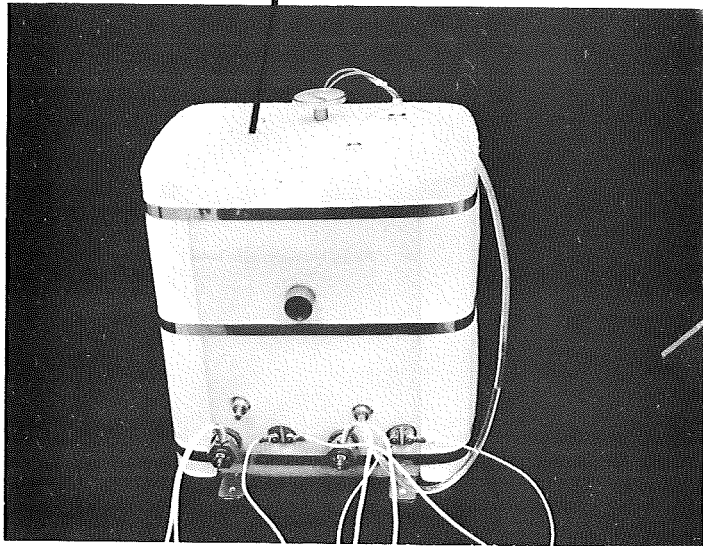

FIGURE 17. WATER TANK ASSEMBLY
The water subsystem consists of an aluminum tank (See Figures 17 through 20) equipped with two 500 watt immersion heaters and two thermostats which automatically maintain the 16 pounds of water in the tank at $95^{\circ} \pm 5^{\circ}$. Water is admitted to the tank by connecting the source to a quick disconnect on the back of the unit. All water entering the tank is filtered through a sintered metal filter. There is an additional quick disconnect on the back of the unit which allows for a gravity fill admission of Wescodyne F-53, a germicidal agent, to the water tank.
4.9 Water Tank (See Figures 17, 18, 19, and 20)